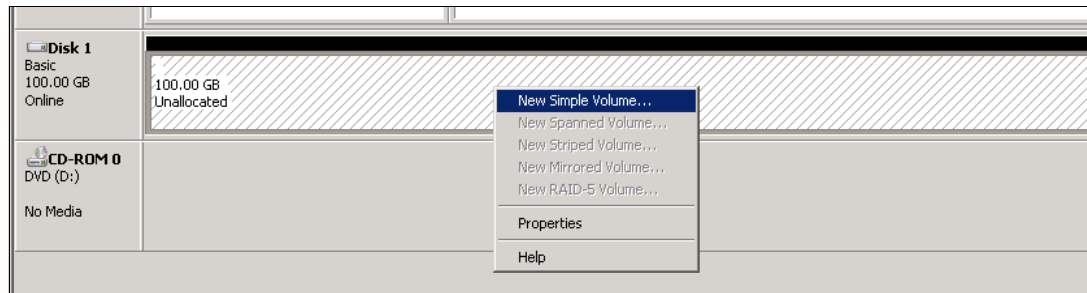

Figure 5-64 New simple volume: SAS attach
9. Right-click the pane on the right side and click **New Simple Volume**, as shown in Figure 5-64.